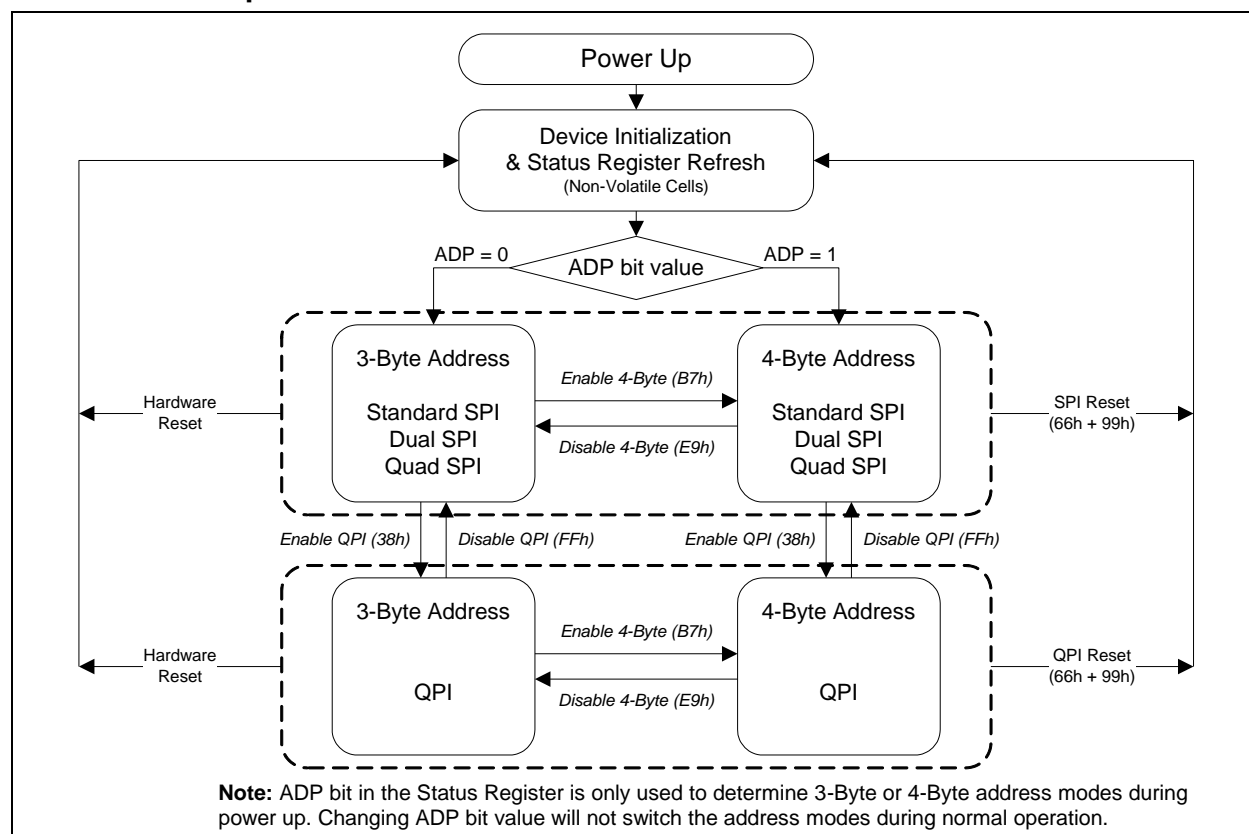

Figure 3. W25Q01NW Serial Flash Memory Operation Diagram
The W25Q01NW supports Quad Peripheral Interface (QPI) operations only when the device is switched from Standard/Dual/Quad SPI mode to QPI mode using the “Enter QPI (38h)” instruction. The typical SPI protocol requires that the byte-long instruction code being shifted into the device only via DI pin in eight serial clocks. The QPI mode utilizes all four IO pins to input the instruction code, thus only two serial clocks are required. This can significantly reduce the SPI instruction overhead and improve system performance in an XIP environment. Standard/Dual/Quad SPI mode and QPI mode are exclusive. Only one mode can be active at any given time. “Enter QPI (38h)” and “Exit QPI (FFh)” instructions are used to switch between these two modes. Upon power-up or after a software reset using “Reset (99h)” instruction, the default state of the device is Standard/Dual/Quad SPI mode. To enable QPI mode, the non-volatile Quad Enable bit (QE) in Status Register-2 is required to be set. When using QPI instructions, the DI and DO pins become bidirectional IO0 and IO1, and the /WP and /HOLD pins become IO2 and IO3 respectively. See Figure 3 for the device operation modes.